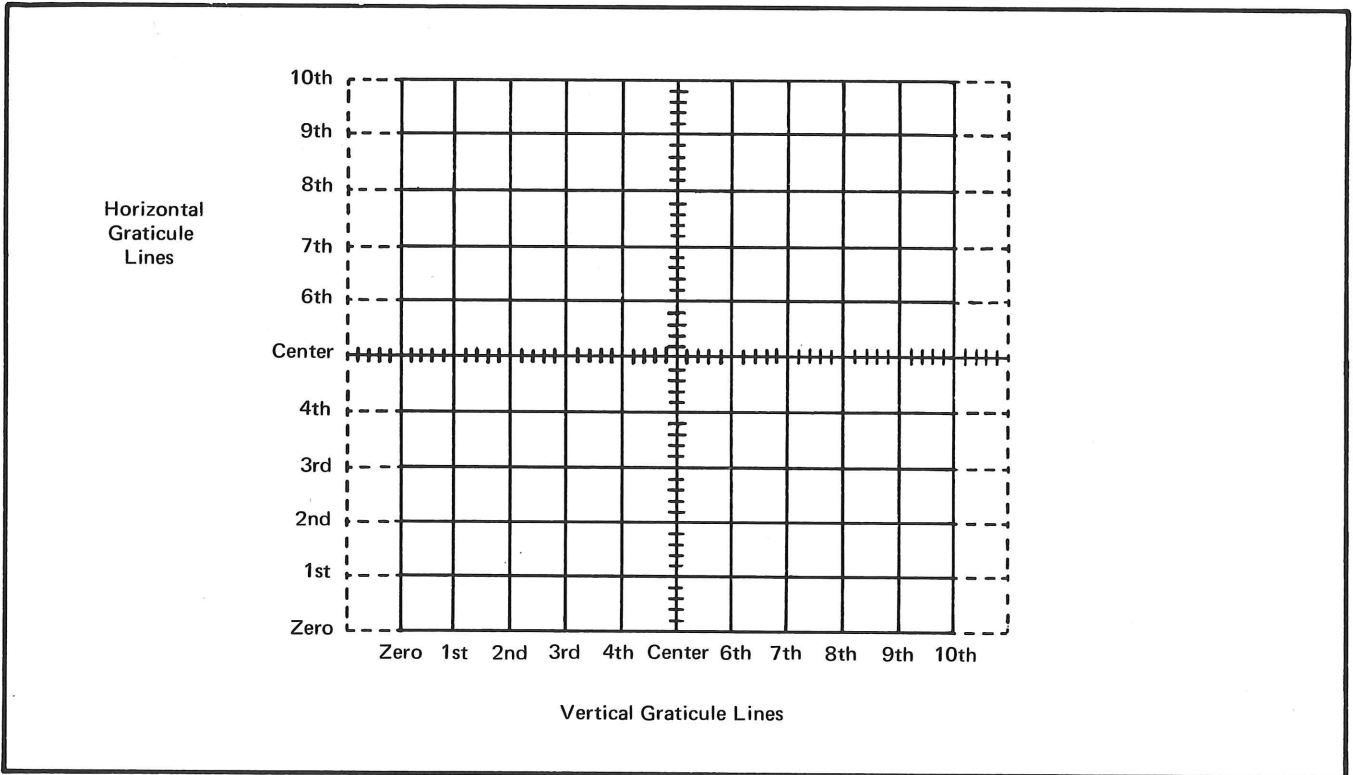

Fig. 1-4. Graticule line labels.
h. Check for the trace parallel with the horizontal centerline (see Fig. 1-4).
m. Using the Type 576 horizontal POSITION switch, position the trace on the zero vertical graticule line of the CRT (see Fig. 1-4).
o. Position the trace to the tenth vertical graticule line (see Fig. 1-4).
s. Using the Type 576 vertical POSITION switch, position the trace to the zero horizontal graticule line (see Fig. 1-4).
b. Position the spot to the zero horizontal and vertical CRT graticule lines (see Fig. 1-4) using the FINE POSITION controls.